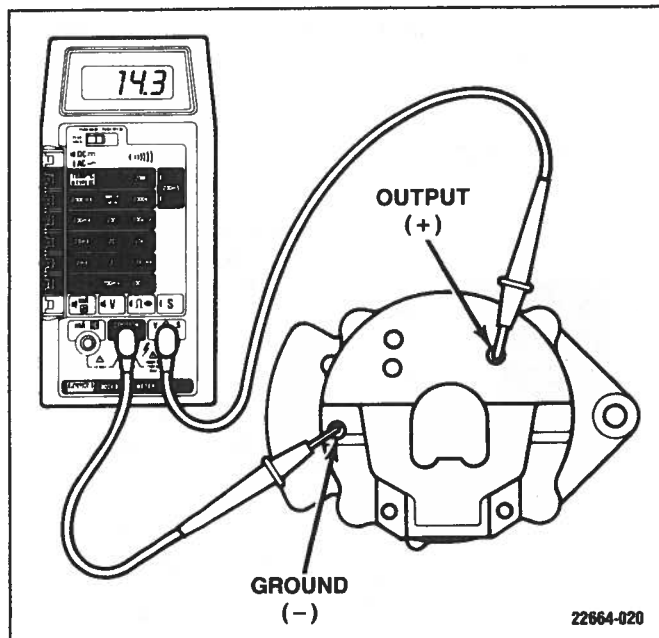

Figure 6-61. Voltmeter Connection To Alternator
1. Connect a voltmeter to the output (+) terminal and the ground (–) terminal as shown in Figure 6-61.
1. With the engine stopped, turn the ignition switch to ON. Do not start engine. Connect a voltmeter to the output (+) terminal and the ground (–) terminal (Figure 6-61). This step will check the battery voltage.
2. Turn the ignition switch to ON. Do not start engine. Connect a voltmeter to the output (+) terminal and the ground (-) terminal (Figure 6-61). This will check the battery voltage.